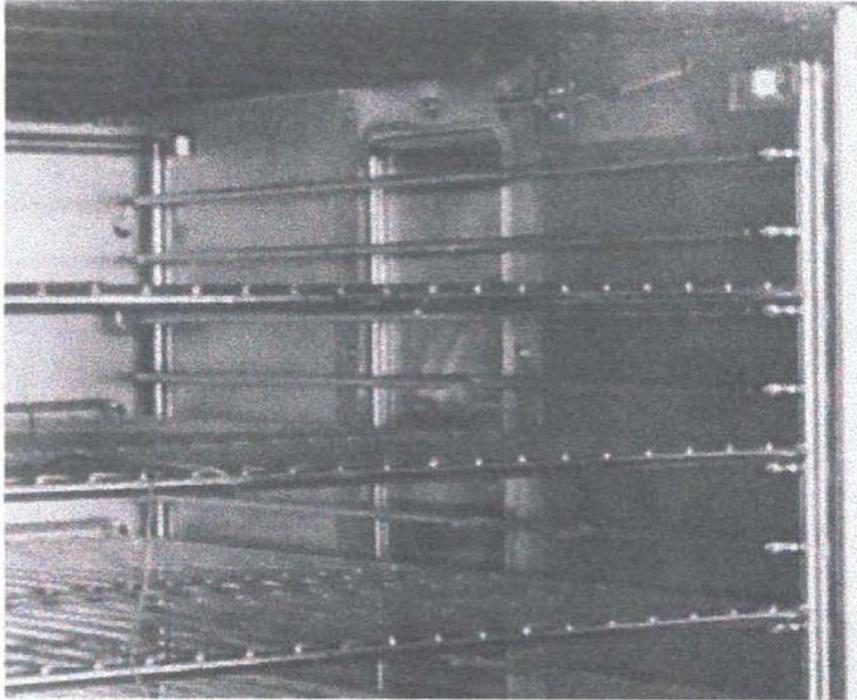

Figure 5-2. Pyrometer Thermocouple Placement
2. Place a pyrometer thermocouple or reliable mercury thermometer on the middle shelf 6 inches from the front edge and in the center of the shelf. See Figure 5-2.